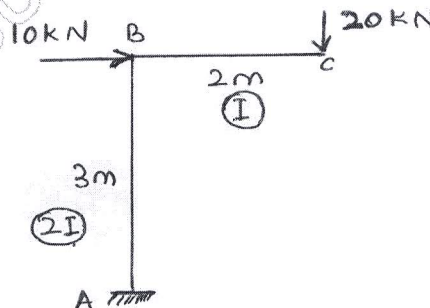

Fig.Q3(b)
- b. Obtain vertical and horizontal deflections at the free end of the cantilever frame shown in Fig.Q3(b), using Castiglano's theorem. (14 Marks)